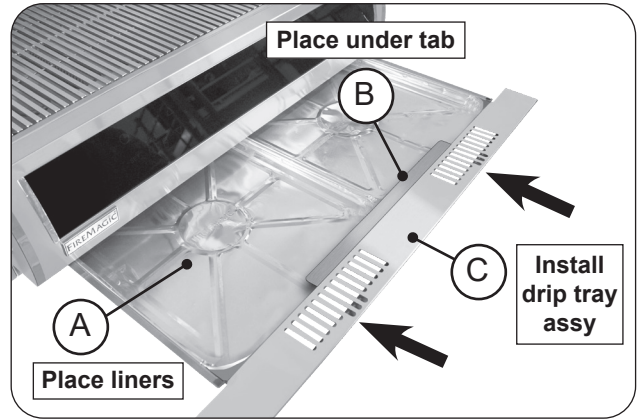

Fig. 31-1 Install drip tray
- Place the liners (Fig. 31-1, A) underneath the tab at the front portion of the drip tray (Fig. 31-1, B)
2. Fully insert the drip tray with liners into the bottom front opening of the electric grill (Fig. 31-1, C).